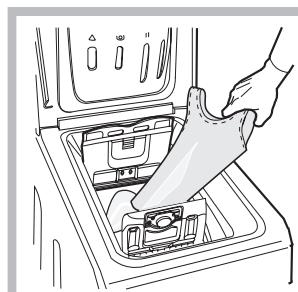

Fig. 3
C) Loading the washing machine (Fig. 3).